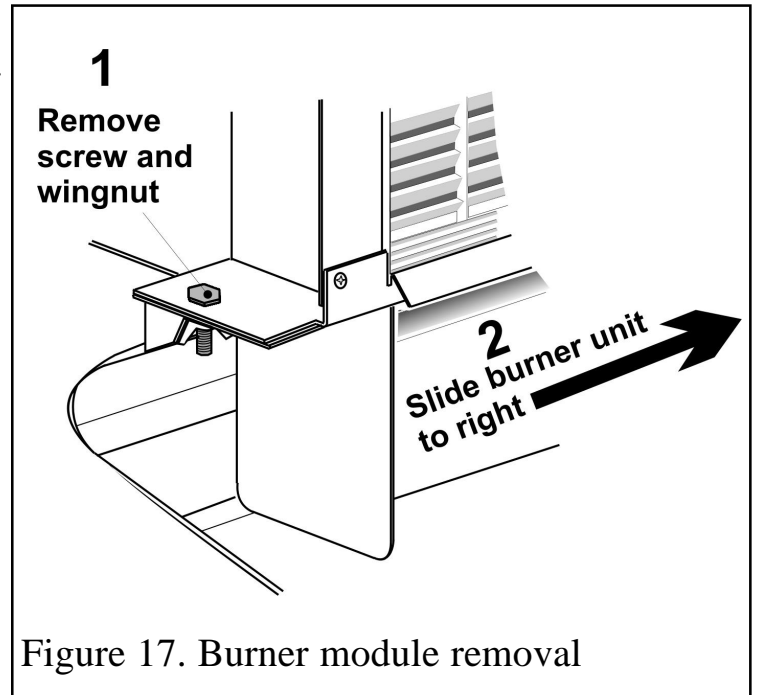

Figure 17. Burner module removal
**11.6.4.** Detach the left end of the burner module from the radiant box by removing one screw and a wingnut (See figure 17).
**11.6.5.** Carefully slide the burner module to the right to free it from the right side of the radiant box (See figure 17).